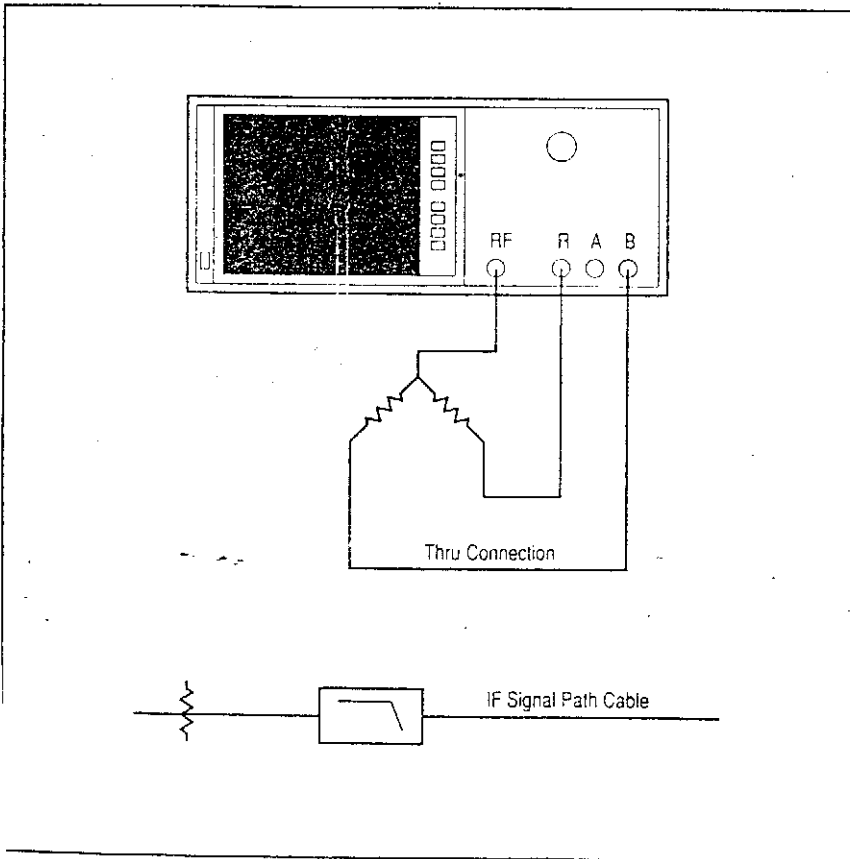

Figure 31. Connection diagram for a frequency response calibration, and device normalization.
The procedure to measure the conversion loss or conversion gain is explained at length in the HP 8753C network analyzers' manual. Appropriate pages are being reproduced for the users' convenience here. The figure numbers and appendix numbers referred to below correspond to the numbers on these reproductions. Set up the apparatus as shown in Figure 31 of Appendix 1, and follow the instruction listed therein. Use the 100MHz lowpass filter with 20dB pad and the 10dB pad on the input side (by using appropriate RF cables) and go through the calibration procedure as listed out. The stimulus settings should be: Center Frequency 70MHz, Span 40MHz, Amplitude 0dBm.
1. Connect the measurement hardware as shown in figure 31 with a thru connection between the power splitter and the HP 8753's B measurement port.
3. Leaving the thru cable in place, insert the receiver channel cabling, attenuation, and filtering between the power splitter and the HP 8753's B measurement port, as shown in figure 31.